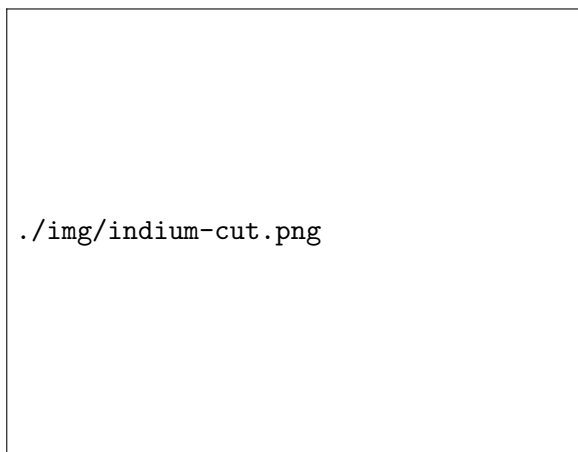

Figure 5.14: How to cut indium wire for fridge seals. [Zha13]
5. Using a razor blade, cut the wire at an angle as in Figure 5.14, firmly placed on the aluminum block.